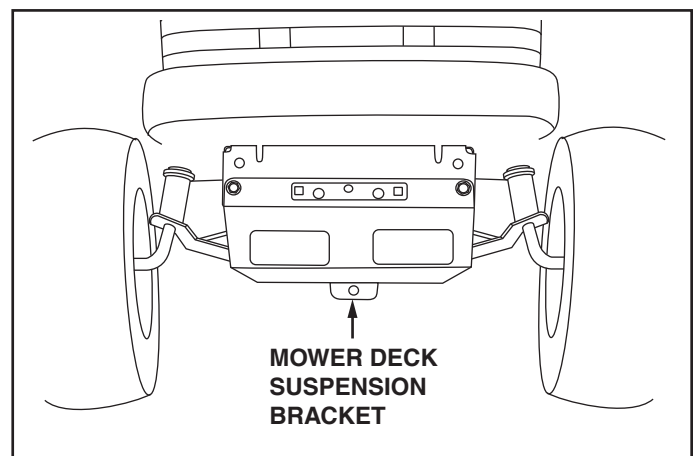

FIGURE 18
STEP 19: IDENTIFY YOUR TRACTOR TYPE (SEE FIGURE 18)